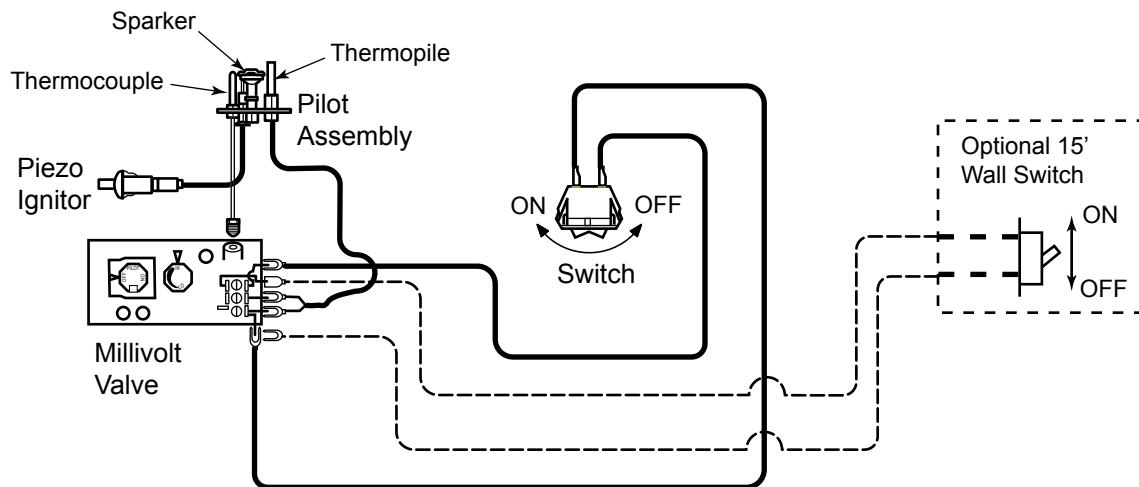

Figure 30 -
A remote wall switch and up to fifteen (15) feet of 18 Ga. wire may be used with this appliance. Attach the wall switch in a junction box at the desired location on the wall. *Figure 30*. Do not extend beyond the wall switch wire length provided.